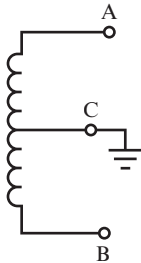

FIGURE 10.14
7. In the center-tapped secondary winding shown in Figure 10.14, the voltage between points A and B may be expressed as $V_{A-B} = 28 V_{pp}$. What is the voltage between C and A? _____
8. In the center-tapped secondary winding shown in Figure 10.14, the voltage between points B and C is $V_{B-C} = 5 V_{rms}$. What is the peak-to-peak voltage between A and B? _____